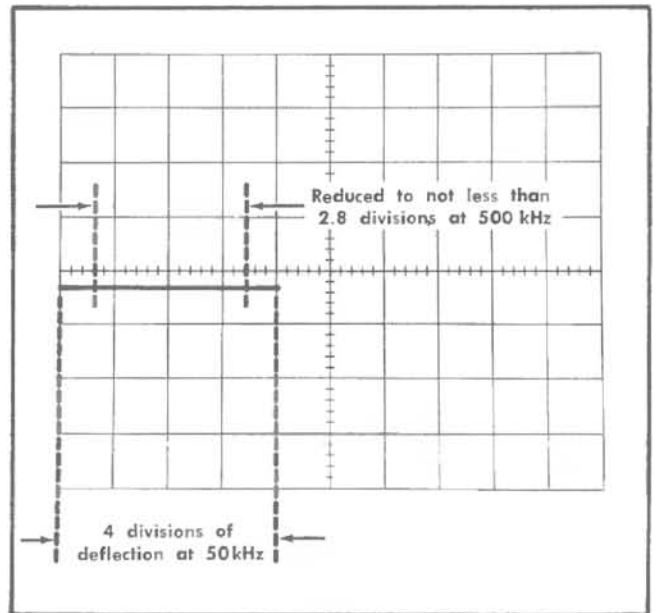

Fig. 6-55. Typical CRT display when checking external horizontal frequency response.
- d. Without changing the output amplitude, increase the output frequency of the constant-amplitude generator until the display is reduced to 2.8 divisions (-3 dB point; see Fig. 6-55).